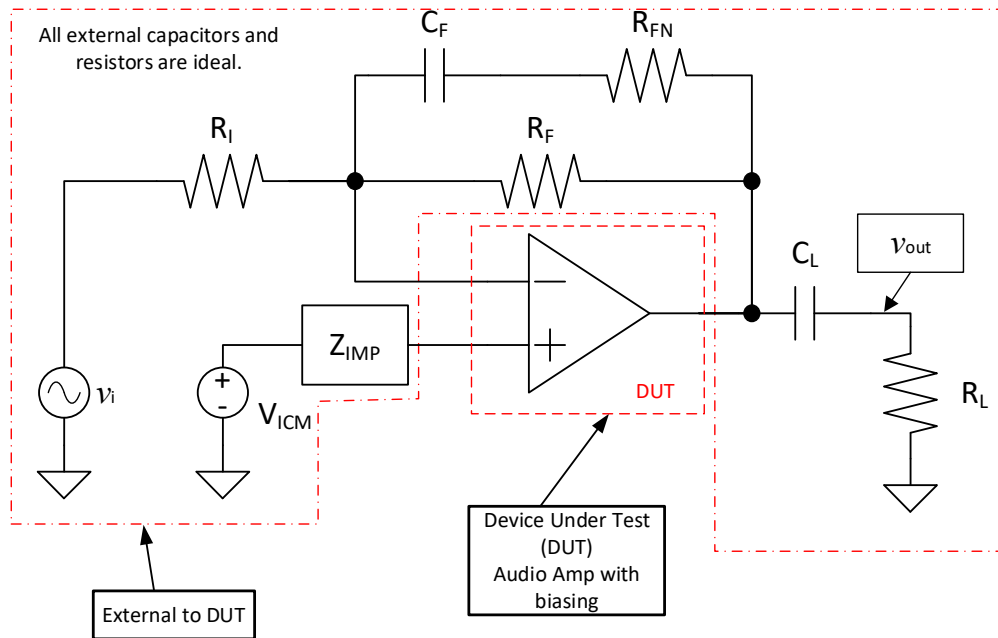
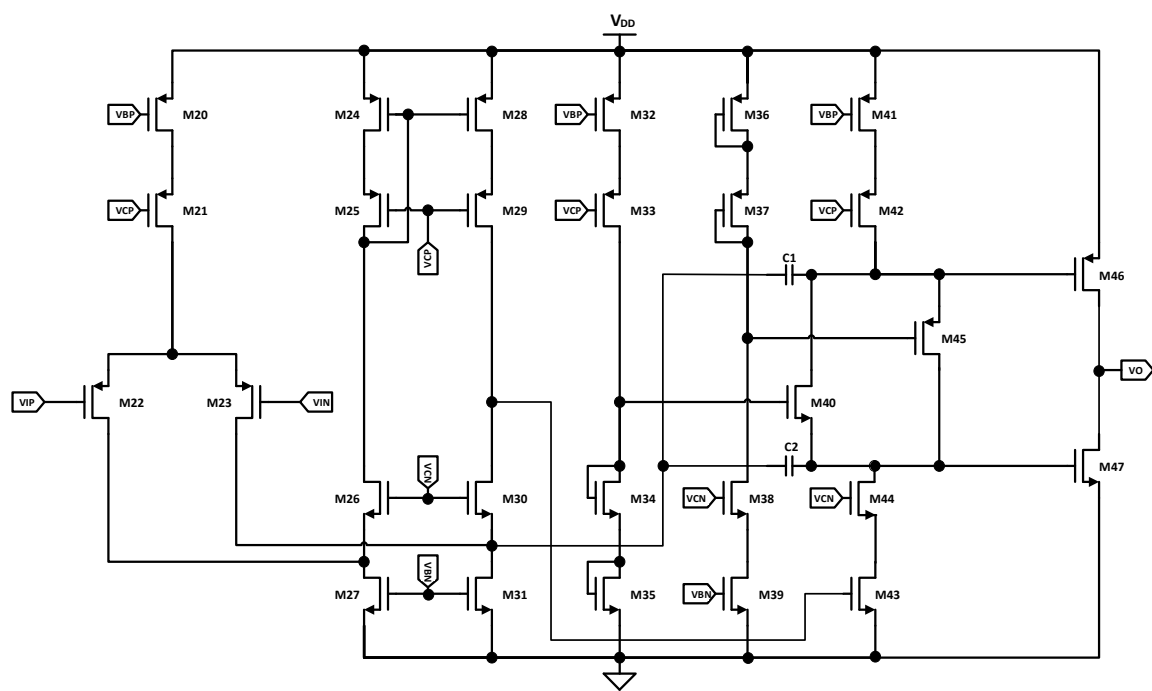

Figure 1: System Architecture of the Class-AB Audio Amplifier
Figure 3: Class-AB Audio Amplifier with Translinear Loop Control
Design the Class-AB Audio Amplifier and its biasing circuitry (shown in Figure 1 to Figure 3) using CSM 0.18 $\mu$ m CMOS process. You must go through the design cycle (simulation, layout, parasitic extraction, and post-layout simulation).
**Spend at least 8 hours to FULLY understand the basic working principle of the amplifier and the biasing circuit (Fig. 1 to 3)**
*You must characterize the device before proceeding with any calculation. If you have any doubts regarding the circuits, please kindly approach the teaching assistants or me. They are very nice and patient. I am very sure that they will be delighted to assist you. Trust me, and you need to have a solid understanding of the working principle of both circuits before embarking on the journey ahead. You are advised to proceed only if you fully understand the circuit operation in Figures 1 to 3.*
6. For some of the transistors in **Fig. 3**, the (W/L) ratio is relatively large. Please feel **FREE** to increase the (W/L) ratio of **ANY** transistor in Fig. 3; try to put them in terms of the multiplier, **m**.